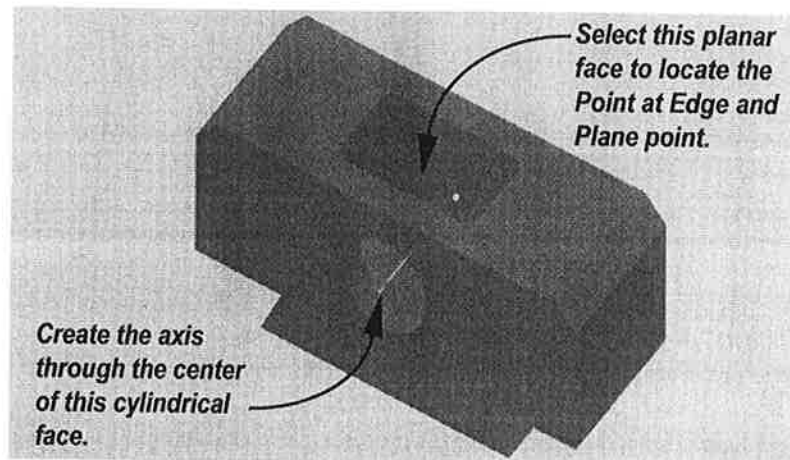

Figure 15-26
2. Switch to the *DESIGN* workspace, if it is not already active. Rotate the design so that it displays similar to that shown in Figure 15-26. This helps to ensure that the construction entities are easily created and selectable.
3. In the **CONSTRUCT** panel, click **Axis Through Cylinder/Cone/Torus** and select the cylindrical face at the front of the component, as shown in Figure 15-26.
4. In the **CONSTRUCT** panel, click **Point at Edge and Plane**. Select the axis that you just created and then select the planar face. The references are shown in Figure 15-26.